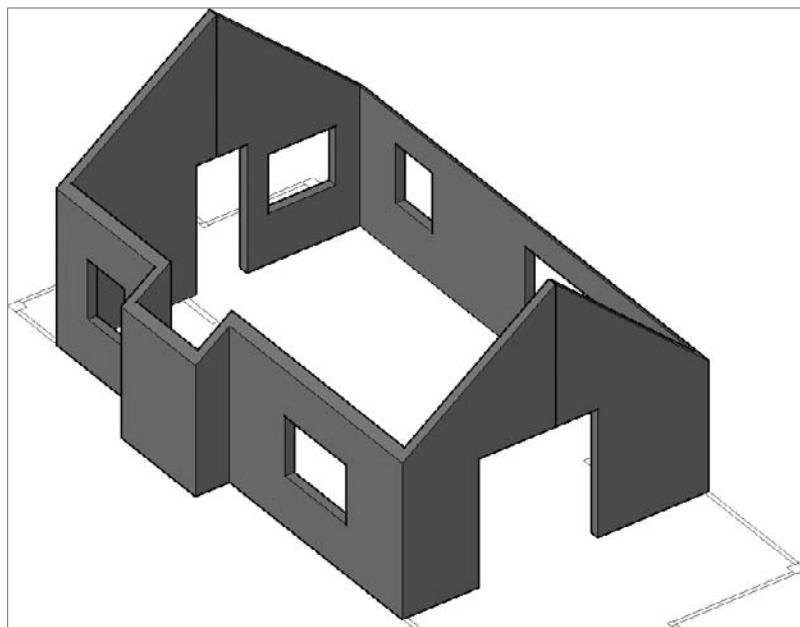

FIGURE 16.83 Both peaks are completed.
9. Adjust the edge on the other side of the front wall in the same manner. Zoom out and you'll see that adjusting one end of the sliced object adjusted the other, and the peak is already constructed at the back of the cabin (see Figure 16.83).